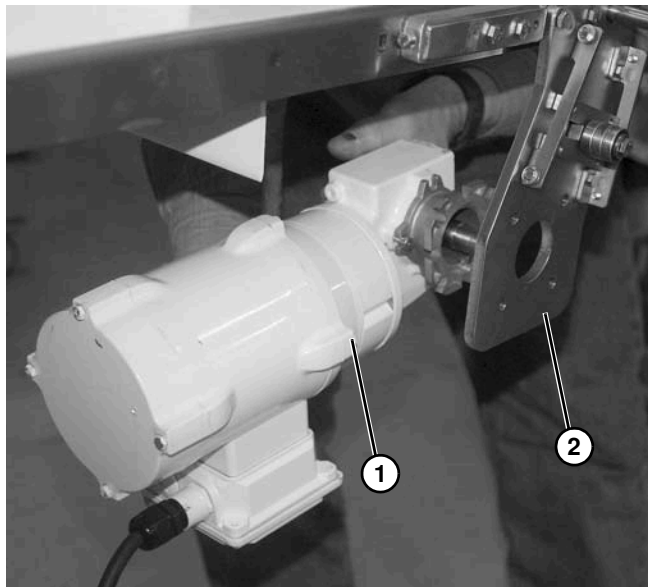
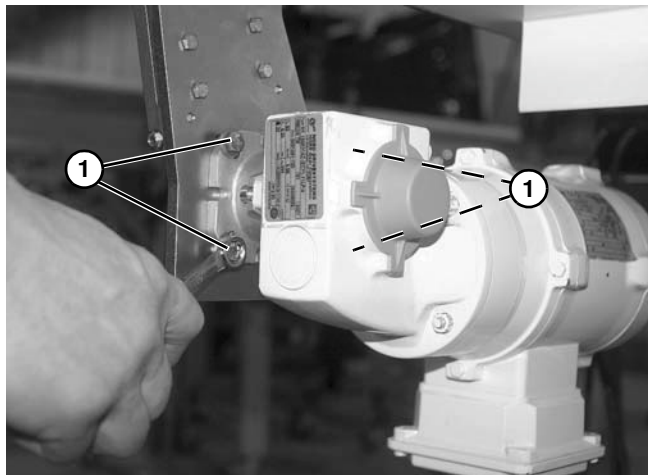

Figure 22
Figure 23
- For bottom 90 degree mount, install gearmotor (Figure 22, item 1) onto mounting plate (Figure 22, item 2) with four screws and washers (Figure 23, item 1).